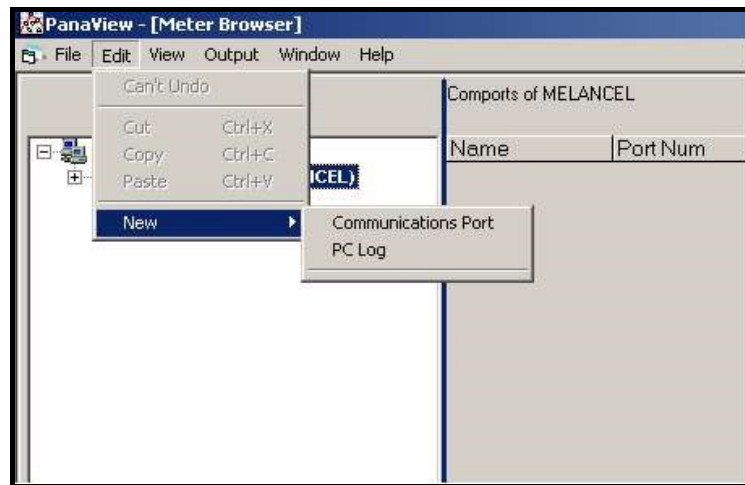

Figure C-1: The Edit Menu
3. Click on the "New" menu option to select it, and a submenu opens with two choices on it (see Figure C-1 below).